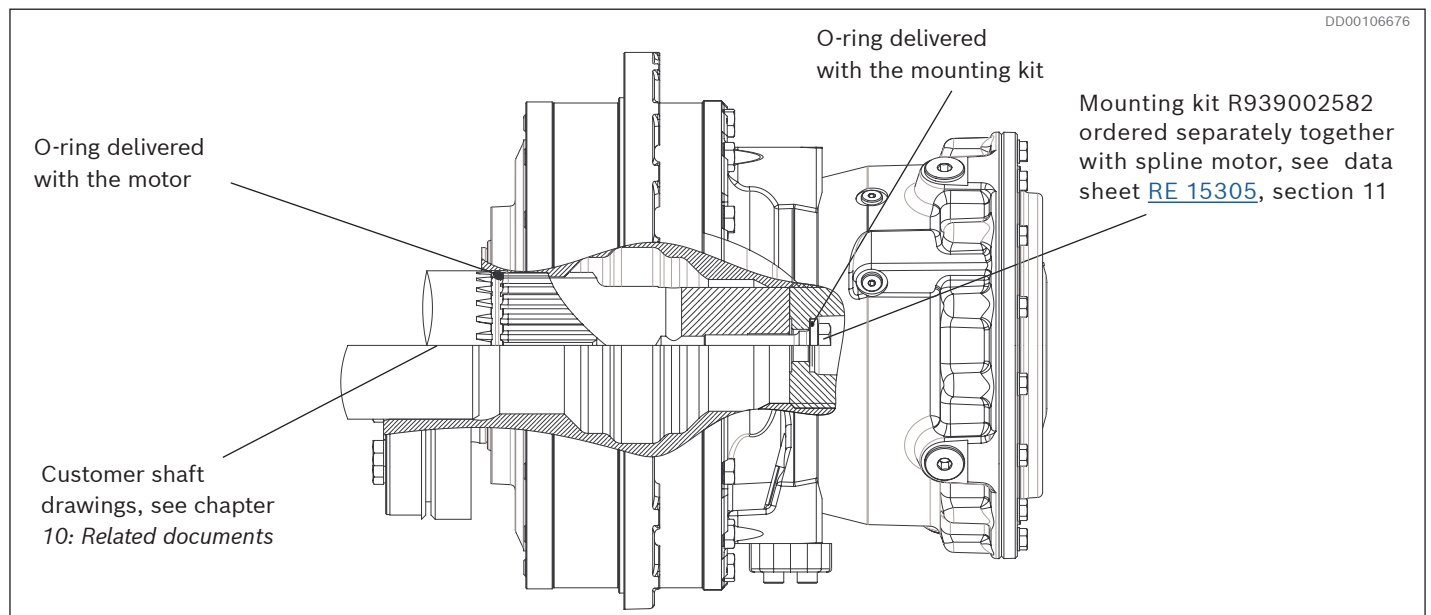

Fig. 14: Example torque arm mounted CA motor with spline or shrink disc coupling and MDA brake on customer shaft
- Standard mounting kit for CA motors with MDA 5 to MDA 10 brakes. See Fig. 14